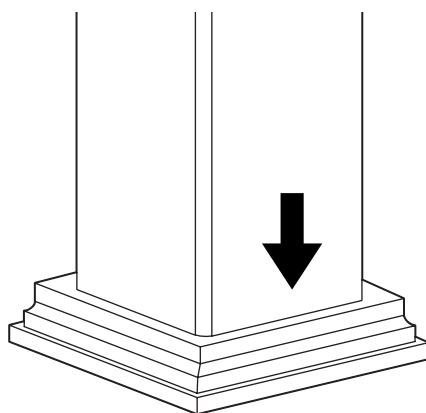

Fig. 1
- If using post-sleeve moulding, slide the post down into the cove moulding prior to securing any railings (Fig. 1).